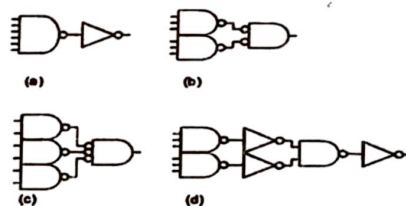

Fig. 1
Q4. Consider four designs of a 6-input AND gate shown in Fig. 1. Using the Logical Effort method, where G is the path logical effort, P is the path parasitic effort, H is the path electrical effort, and N is the number of stages:
- Calculate the delay D of each design (Fig1.a to Fig 1.d) when the path electrical effort is $H=1$.